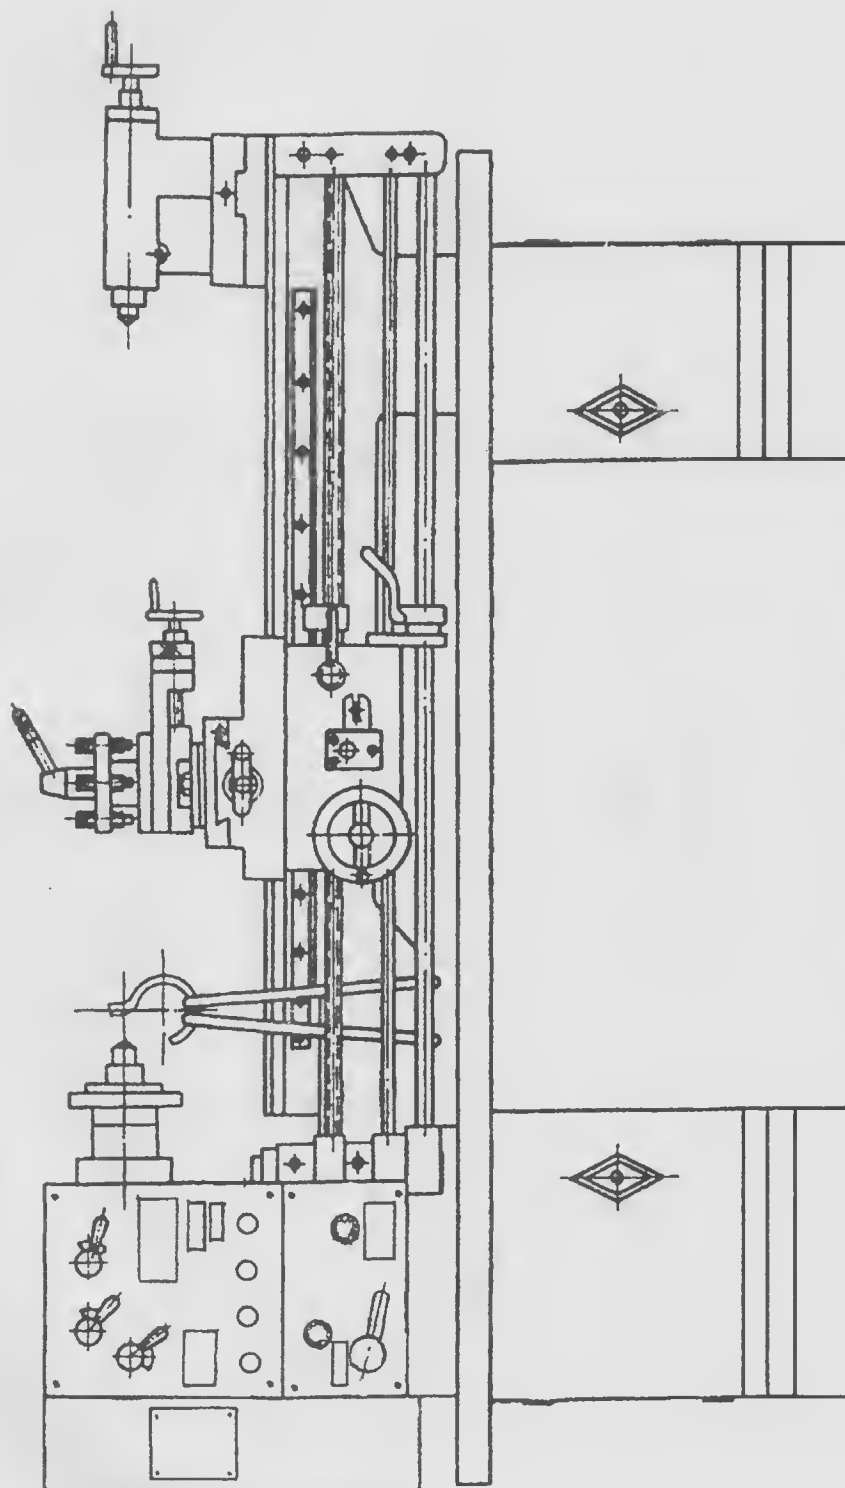

Fig. 2 Hoisting Chat
3. Sling the machine as shown in the hoisting chart Fig. 2 when it is transporting.